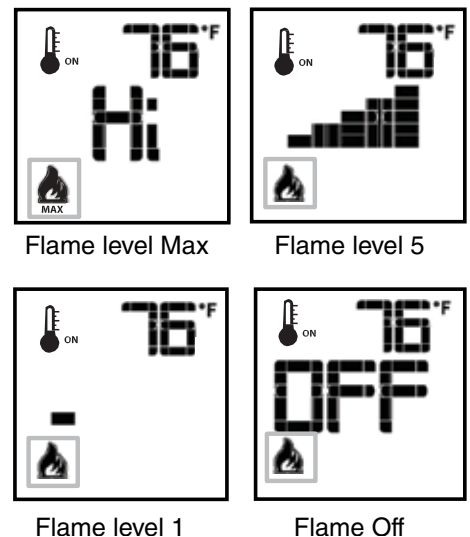

Figure 9: Flame level control.
The Proflame 2 has six (6) flame levels (Figure 9). With the fireplace turned on, and the flame level at maximum height, press the down arrow key once to reduce the flame height by one step until the flame is turned off.